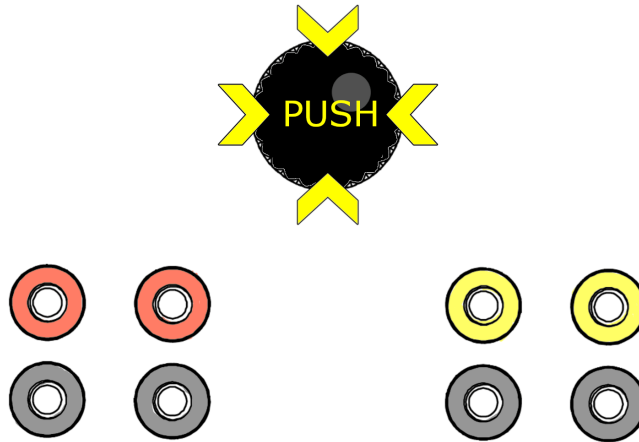

Figure 3: Cycling between digits
1. Use the dial depress function to change the status of the selection until it is indicating that you have selected the correct digit of the delay that you want to change (Figure 3).
Depress and hold down the dial in (Figure 3) for more than *2 seconds*. This will reset all values in the current simulation back to their predefined default values.